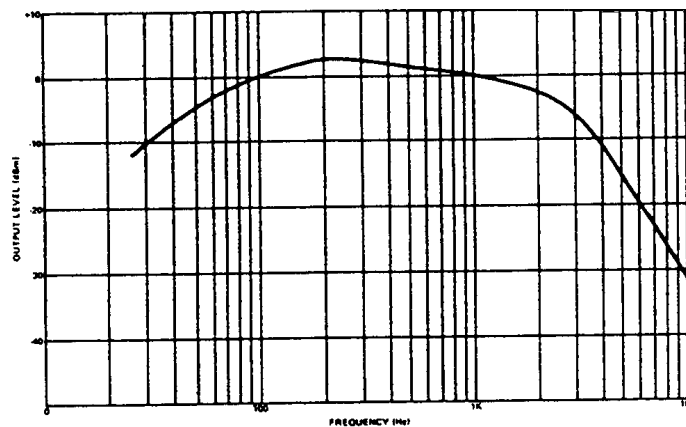

Figure 3. 8106-0X Frequency Response
- (c) FREQUENCY RESPONSE: See Figure 3.